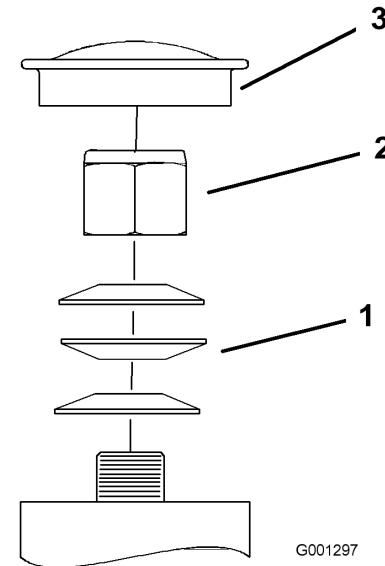

Figure 45
3. Remove the dust cap from caster and tighten lock nut (Figure 45).
4. Tighten the locknut until the spring washers are flat and then back off a 1/4 turn to properly set the pre-load on the bearings (Figure 45).
5. Install the dust cap (Figure 45).